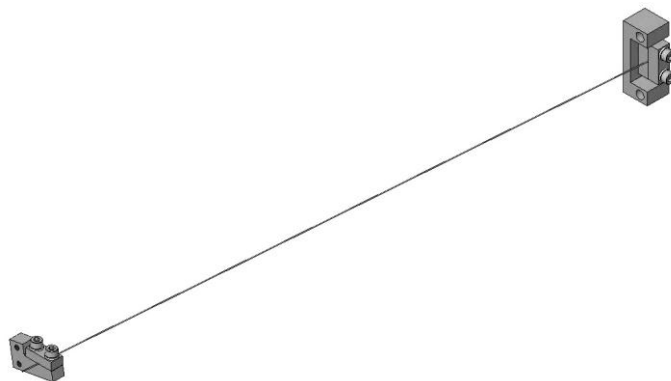

Fig 11: Upper Wire Assembly
- Loosen the #8-32 X 0.5" and #4-40 X 0.5" SHCS to remove the Wire Assembly from the Wire Jig. Loosen the SHCS in the Wire Start Posts and discard the leftover Steel Music Wire. The completed Upper Wire Assembly is shown in Figure 11.